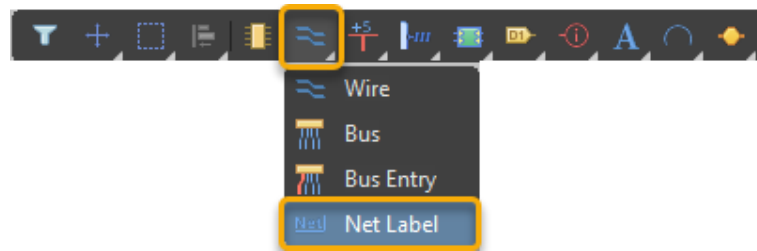

Figure 19. Net Label
26. Now place **Net Labels** using the **Active Bar** (or by going to **Place » Net Label** or use the shortcuts **P » N**), see Figure 19.